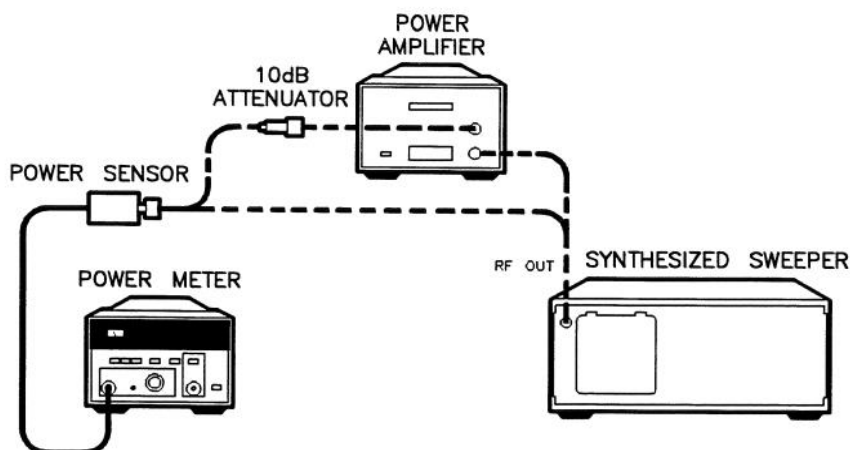

Figure 4-4. Maximum Leveled Power Setup
2. Connect the equipment as shown in Figure 4-4.